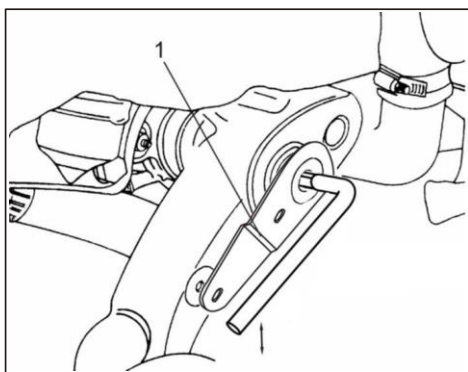

Figure 4-23 Remove Rocker arm
- (6) As indicated in Figure 4-23, remove the stabilizer bar rocker arm 1.